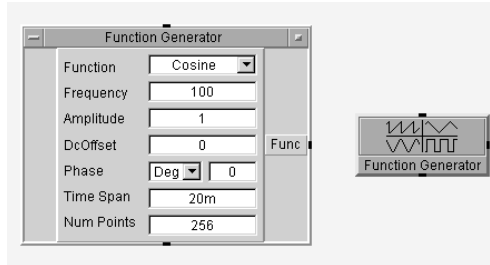

Figure 1.2. The Function Generator open view and iconic view
10. Click the dot on the right end of the Title Bar – its icon “minimize” button. The Function Generator Object converts to its Iconic View. See Figure 1.2 on the next page.